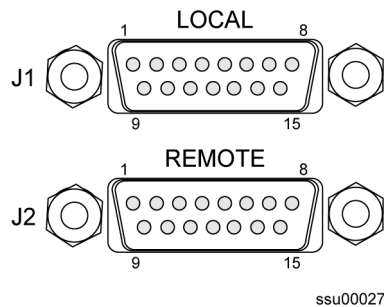

Figure 3-6. Alarm Contact Closures and Pin Assignments
The SSU-2000e Shelf has two filtered DA15P male connectors for local and remote alarm contact closure connections, as shown in Figure 3-6. The local connections are made on J1 and the remote connections are made on J2. The connectors are labeled ALARM CLOSURES, LOCAL (J1) and REMOTE (J2). They each have connections for normally open (NO), common or wiper (COM), and normally closed (NC) for each of these alarm categories: CRITICAL, MAJOR and MINOR.